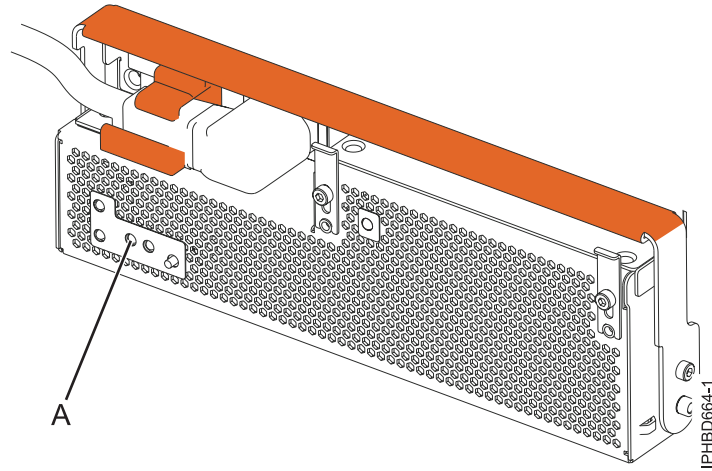

Figure 7. FRU fault and identify LED
4. At the front of the expansion unit, identify the power supply that must be replaced. To identify the power supply, observe the state of the amber field-replaceable unit (FRU) fault and identify light-emitting diode (LED) (A) as shown in Figure 7 on page 10. A lit (on solid or flashing) LED indicates the failing power supply.